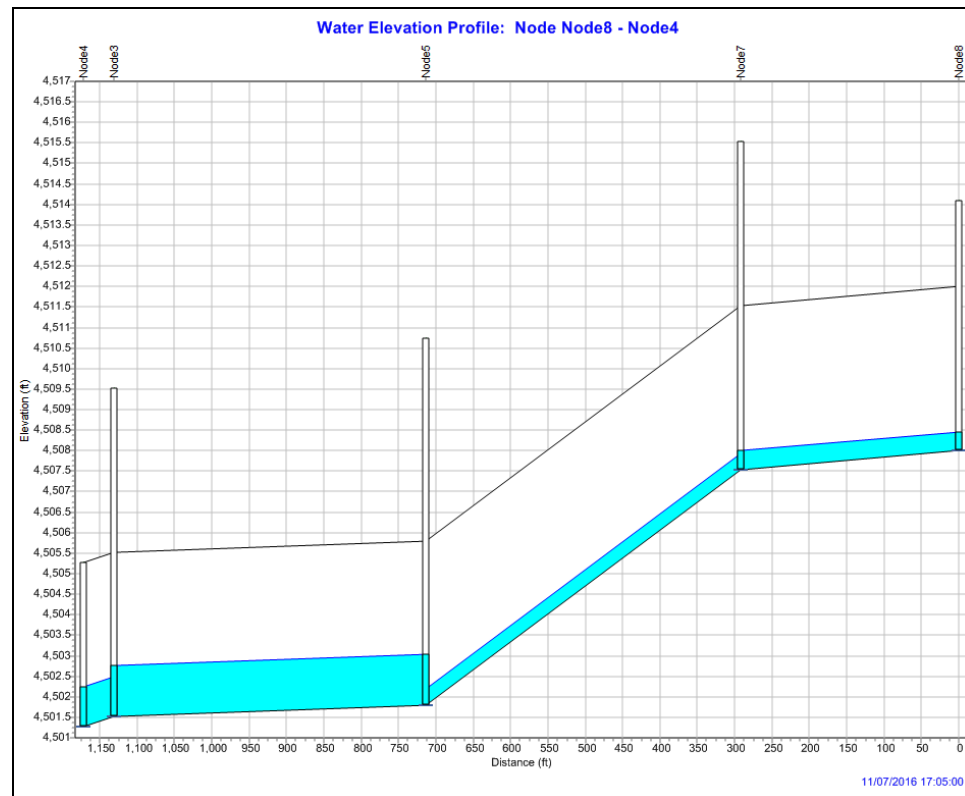

Figure 11 Elevation v. Distance plot from an upstream to a downstream node in the model
12. Click **OK** to close the *Profile Plot Selection* dialog and bring up a “Water Elevation Profile” plot (Figure 11).